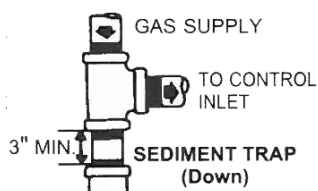

Figure 9
2. A sediment trap must be present in the gas supply line. If one is not present one must be installed to prevent dirt from entering the control. See Figure 9. All piping must conform to local codes and ordinances and with National Gas Codes (ANSI Z223.1 and NFPA No. 54).